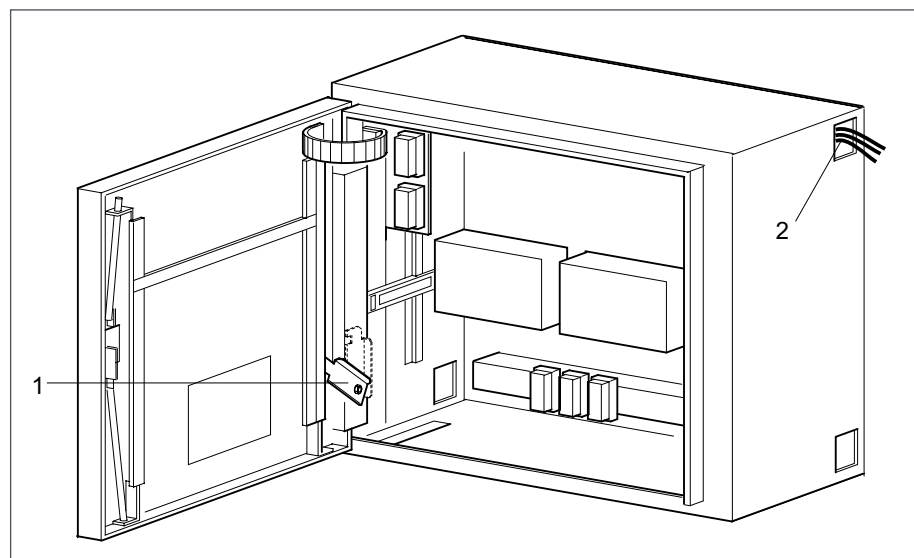

Figure 68
3. The door can be secured optionally in open position using a lock plate (Figure 68, 1).
1. Route the ring circuits for the intra-panel wiring through the lateral openings of the low-voltage compartment (Figure 68, 2).